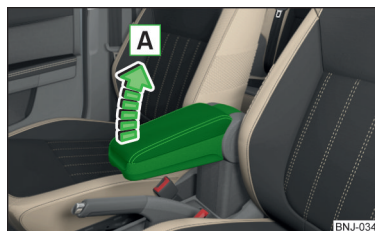

Fig. 70
- To **adjust the height**, lift the armrest in the direction of the arrow **A** into one of the locking positions » Fig. 70.